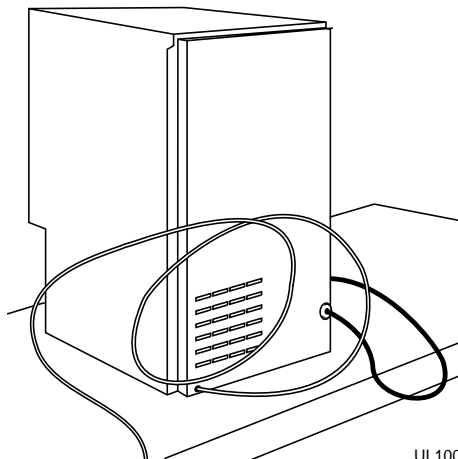

Figure 7
4. For recessed installations, allow extra water supply line length to provide slack for easy removal from the recessed area (see Figure 7). This will also safeguard against kinking the line.